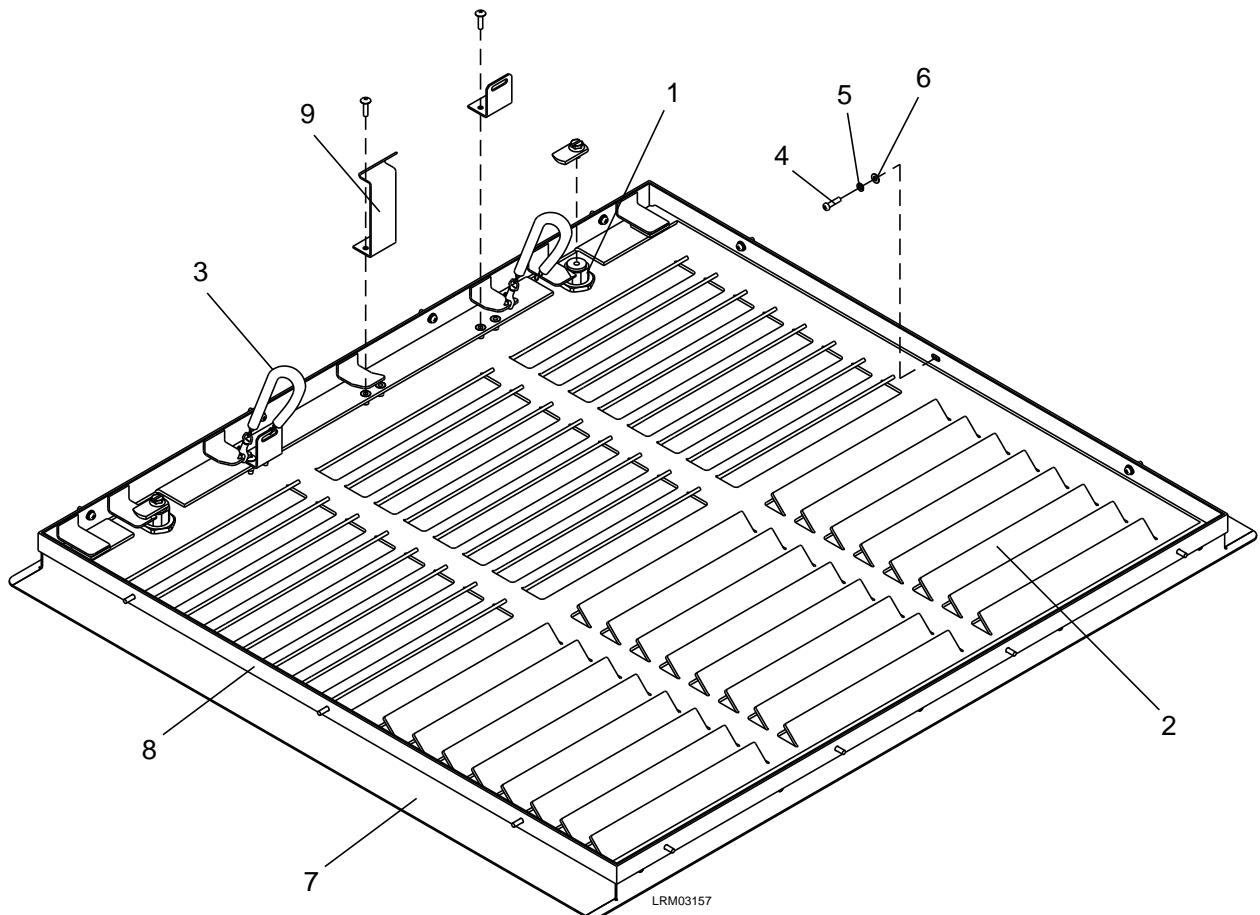

Figure 7-84: Return Air Grille
1. Using a crew key, unlock and open the Return Air Grille (2). See Figure 7-84.
2. Unhook the safety catch (9).
3. Unhook the two safety chains (3) and let the return air grille open fully on its hinge.
4. Remove the fourteen M4 x 16 screws (4), M4 lock washers (5) and M4 plain washers (6) from the return air grille frame (7).
5. Remove the Return Air Grille (2) and packing (8).